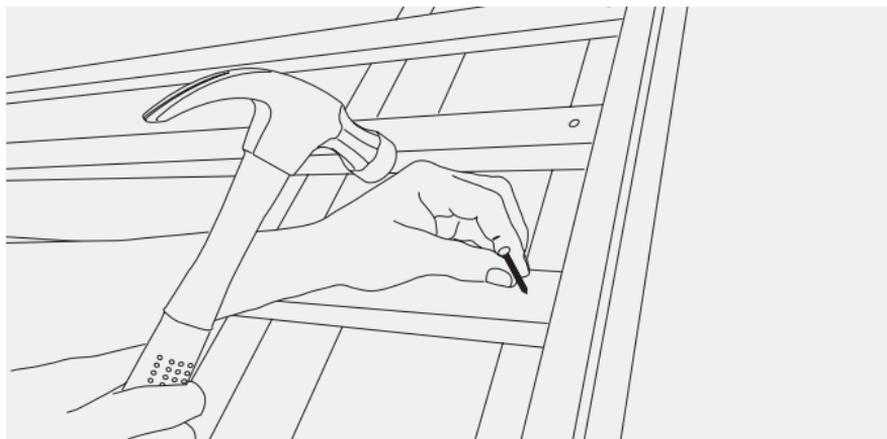

Fig. 47 – Nailing verge units
- Secure the verge extrusion by driving the annular ring shank nails provided through each tiling batten (40mm from the end) into the extrusion (Fig. 47).